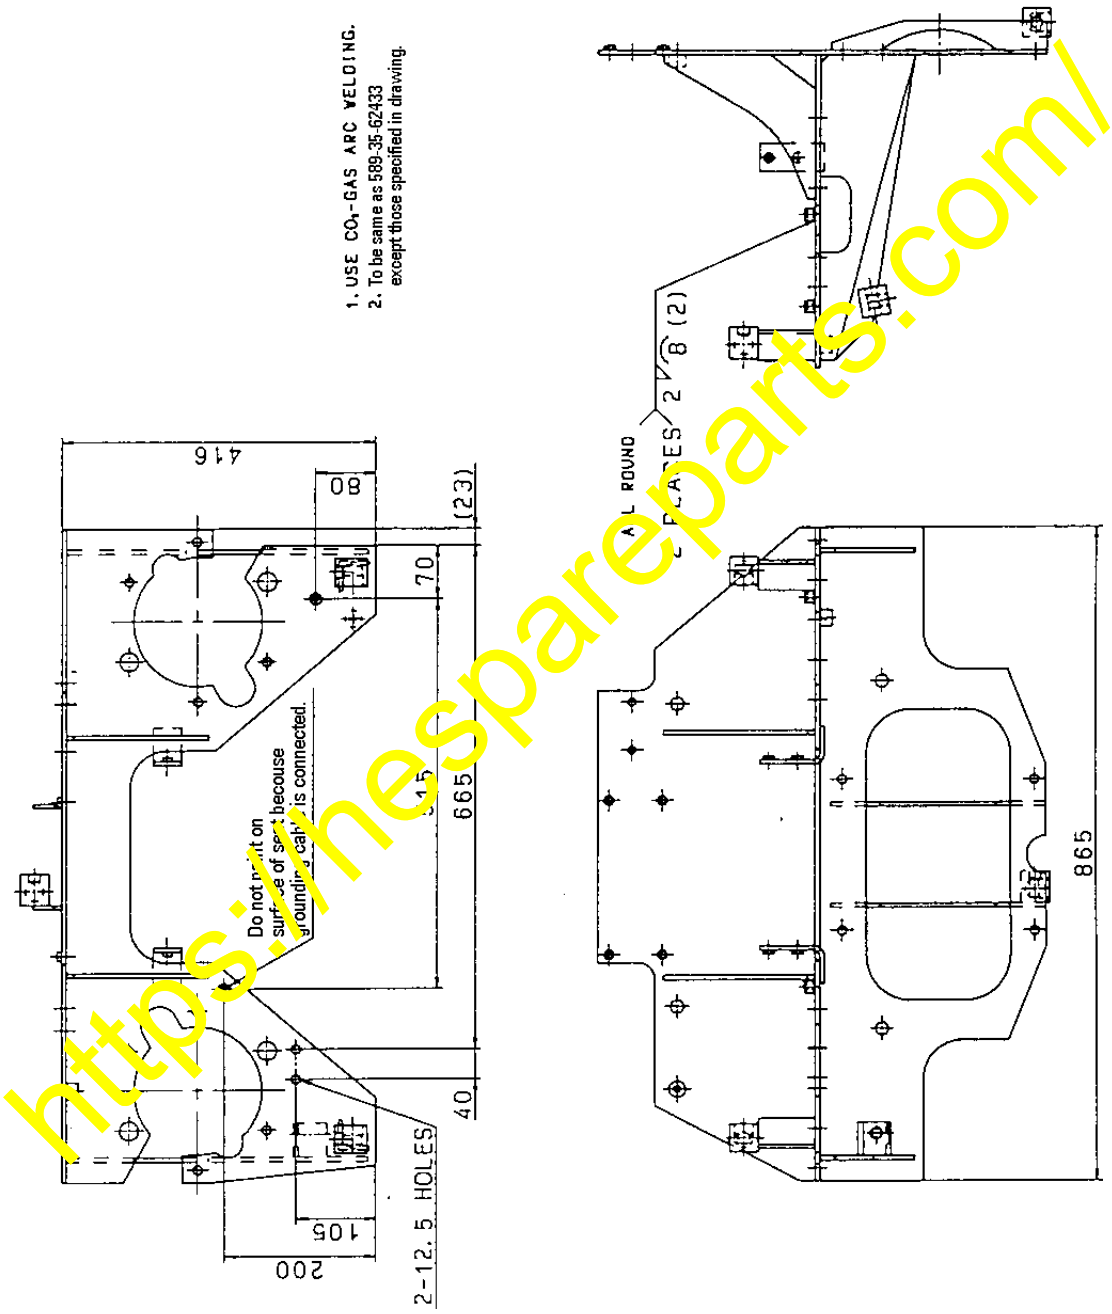

Fig. 8 Reworking drawings for the bracket
- 1) Reworking with the rear brake chamber bracket (Refer to Fig. 8.)